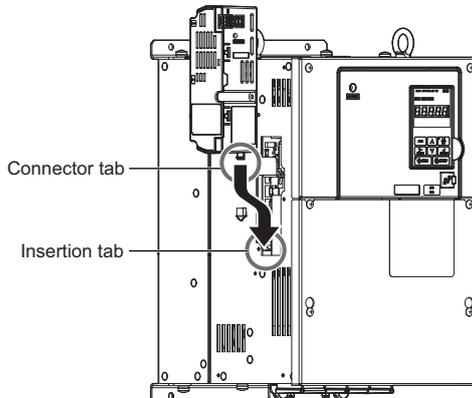

Figure 18 Location of tabs
1. As shown in Figure 18, align the connector tabs on the 24 V Power Supply Option with the insertion tabs on the drive.